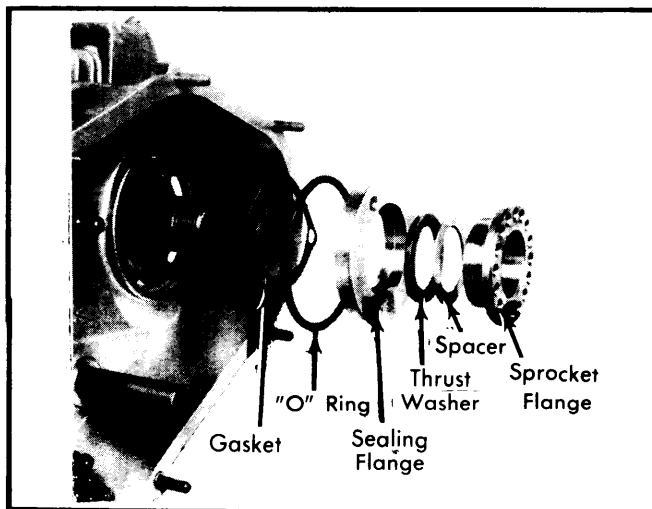

**Fig. 1 Cross Section of Rocker Arm Shaft Assembly**
4) Install rocker arms and shafts so grooves in shafts are recessed approximately .060" (1.52 mm) into bores. See Fig. 1. Tighten Allen bolts to 13 ft. lbs. (1.8 mkg) using suitable tools (P 210 & P 211).
Using an Allen wrench, loosen rocker arm shaft bolt. Slide rocker shaft out of cylinder head and remove arm. Check rocker arm shaft and bushing for wear and replace as required. Install rocker arm shaft with Allen bolt facing either No. 2 or No. 5 cylinder. Center shaft in housing and tighten Allen bolt. See Fig. 1.